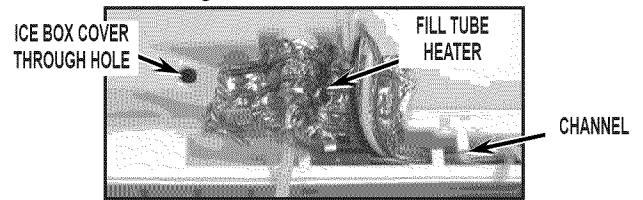

FIGURE 17
23. Attach the new fill tube heater supplied with the kit onto the ice maker fill tube on the ice box assembly. Route wires into channel. See *Figure 17*.
24. Locate the through hole on top of ice box cover. Slide wires from new fascia heater through front of ice box and through the through hole. See *Figure 17*.